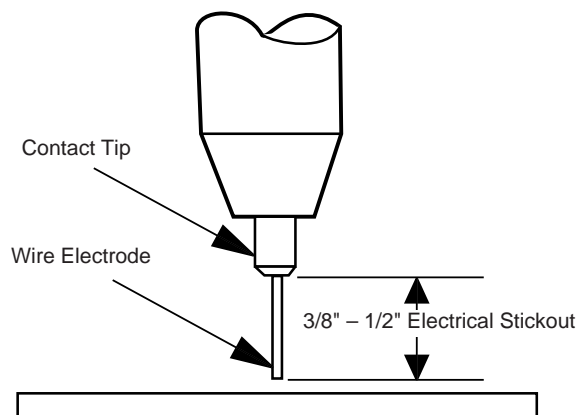

FIGURE B.6
13. Refer to Figure B-6. Cut the wire off 1/4" – 3/8" (6 – 10 mm) from the end of the tip. The Pro-MIG 135 is now ready to weld.